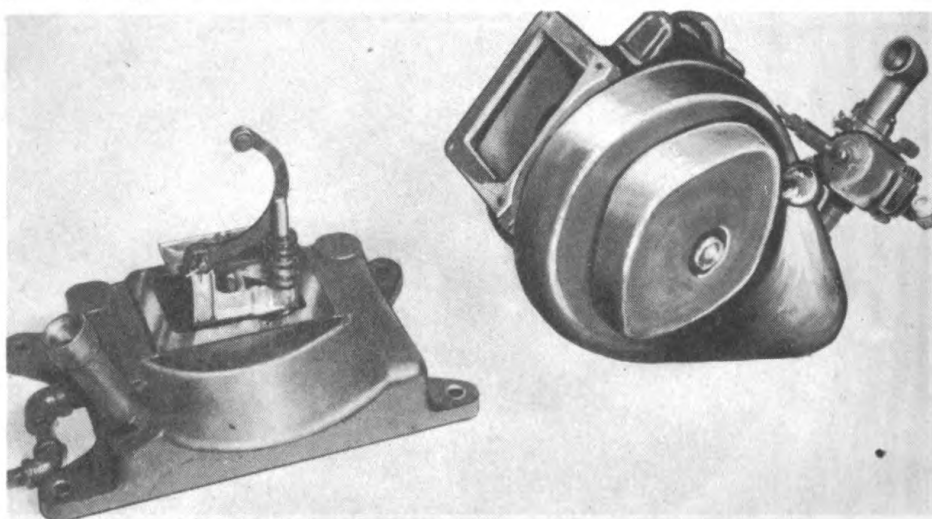

Fig 71. Engine base and cylinder block disassembled to expose oil pump.
j. Lift cylinder block off base. This exposes oil pump as shown in figure 71.